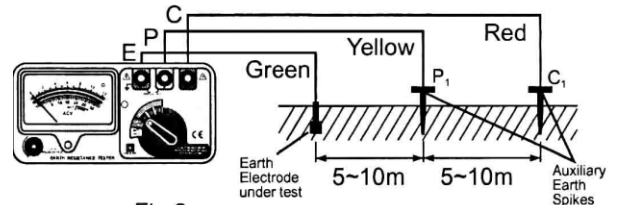

Fig.2
- Connect green, yellow and red test leads to Instrument terminals E, P and C, with auxiliary earth spikes P_1 , C_1 . Stick the auxiliary earth spikes P_1 & C_1 into the ground properly and deeply. Both of the P_1 & C_1 spikes should be aligned from the earthed electrode under test. The interval should be 5~10m (Fig.2).
Follow the proper connection as shown in Fig.2. The LED (red) indicator will be lit.